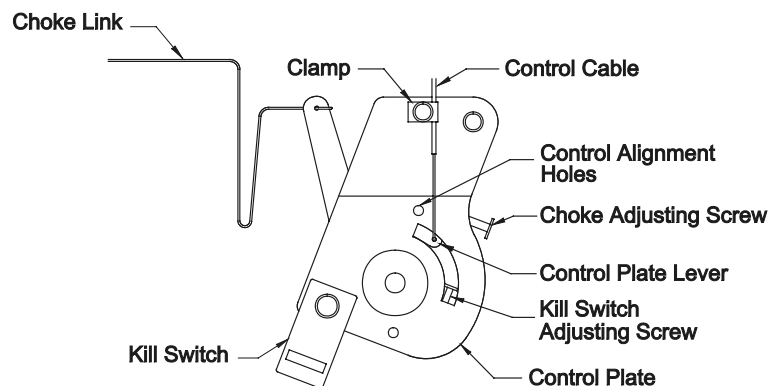

FIGURE 2
- Loosen clamp on engine control plate. (See Figure 2). Attach inner wire of the throttle cable to the control plate lever and position cable under clamp, **do not** tighten clamp.